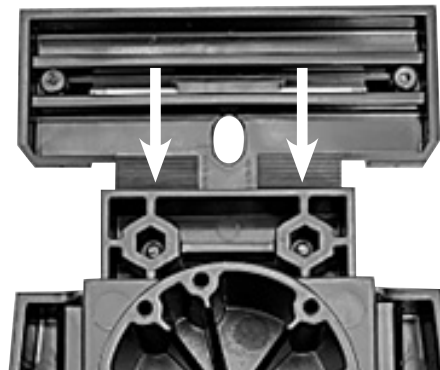

Figure 6
7. Push and click the center slide down into the closed position. (figure 6)